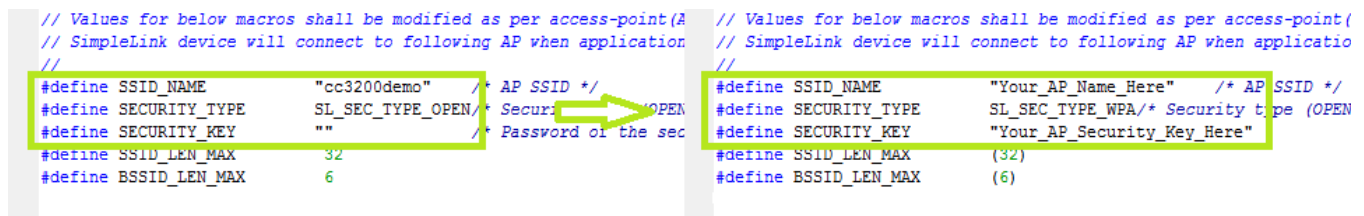

Figure 9. Editing *common.h*
10. Edit *common.h* to use the SSID, security type and security key of the Access Point being used. Edit the macros *SSID_NAME*, *SECURITY_TYPE* and *SECURITY_KEY* to contain the Access Point's information as shown in Figure 9. The security types supported for this demo are WPA/WPA2 and Open. For Open security, define *SECURITY_TYPE* as *SL_SEC_TYPE_OPEN*. For WPA and WPA2 security, define it as *SL_SEC_TYPE_WPA*. Alternatively, the SSID and security of the Access Point being used can be changed to match the default (SSID: *cc3200demo*, Security: Open).